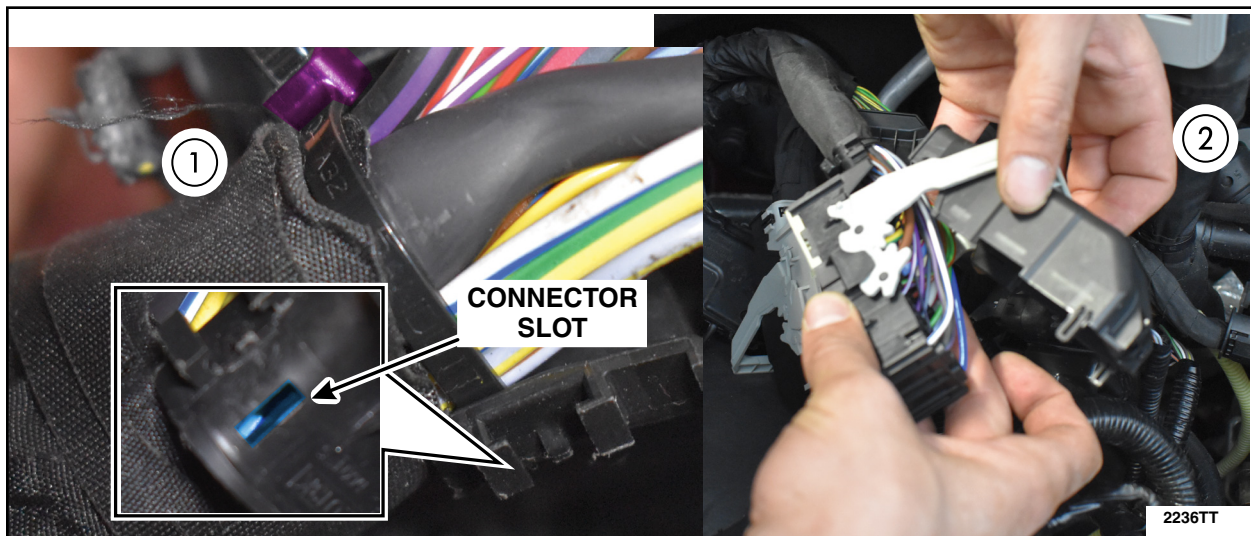

FIGURE 51
60. Secure wire covering and wire bundle with a zip tie. Clip back shell into place on connector C1035B. See Figure 51.